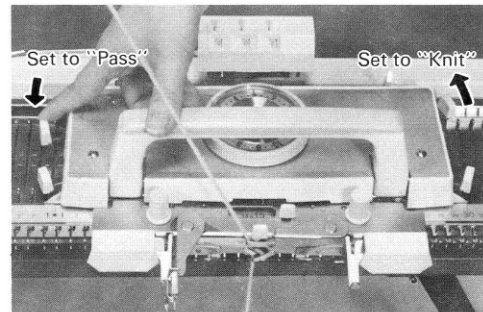

Fig.39
b) Move both return cam levers to No.2 – forward position. (Fig.39)
c) Set left hand guide cam lever to “PASS” and right hand lever to “KNIT”. (Fig.39)